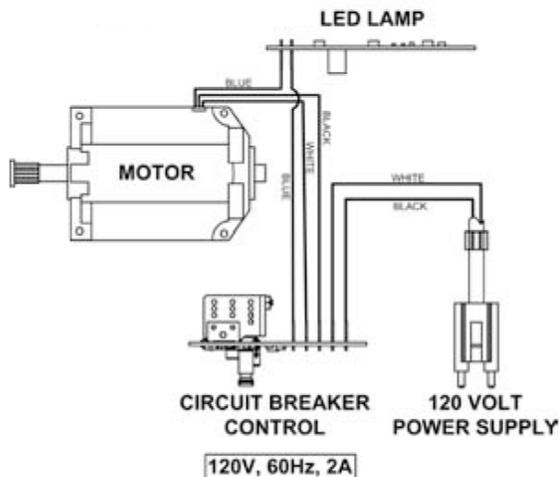

Figure 2
4. Circuit Breaker – The electronic circuit breaker protects the motor and the cogged belt from damage should a motor stall occur due to accidental pick up of a larger object. The LED light located on the back of the powerbrush (see Figure 2.) will glow green in color for normal operation and flashing red in color for a stalled or jammed condition.